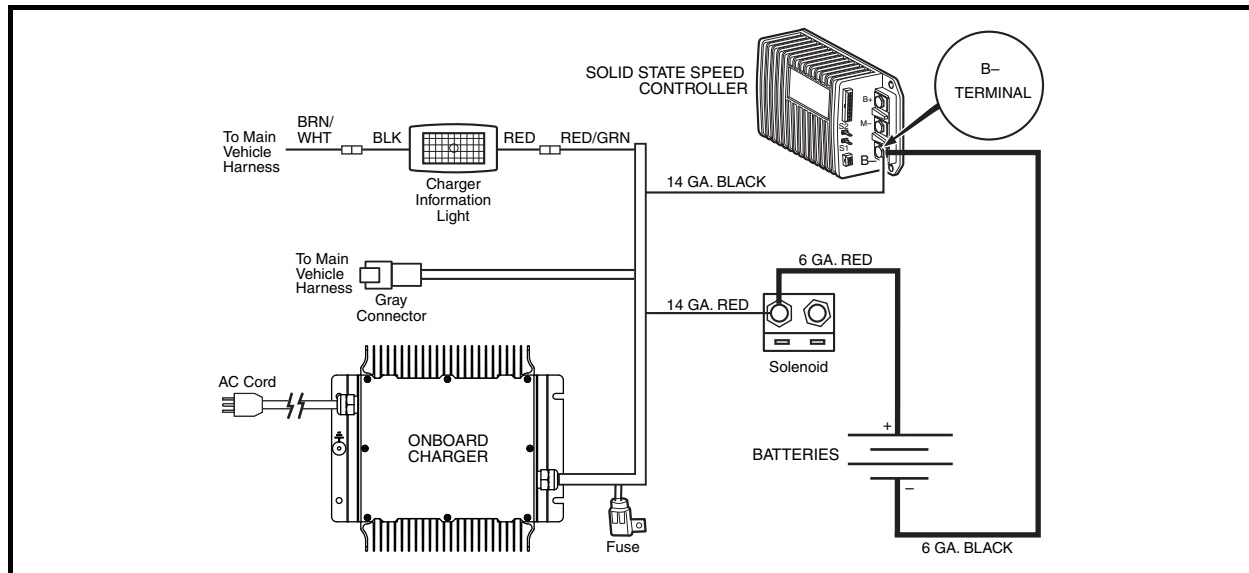

Figure 10-3 Charge Circuit
The charge circuit consists of the onboard charger, batteries and charger information light (**Figure 10-3, Page 10-4**).
- Knowledge of battery charger wiring and component terminology is required before attempting any repair (Figure 10-3, Page 10-4).